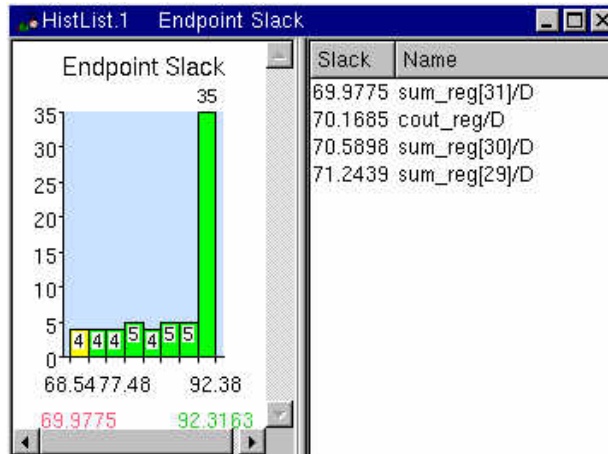

Figure 9-7 Histogram of endpoint slack.
12. Check endpoint slack by clicking on **Timing**→**Histogram**→**Slack....** Figure 9-7 is the endpoint slack.